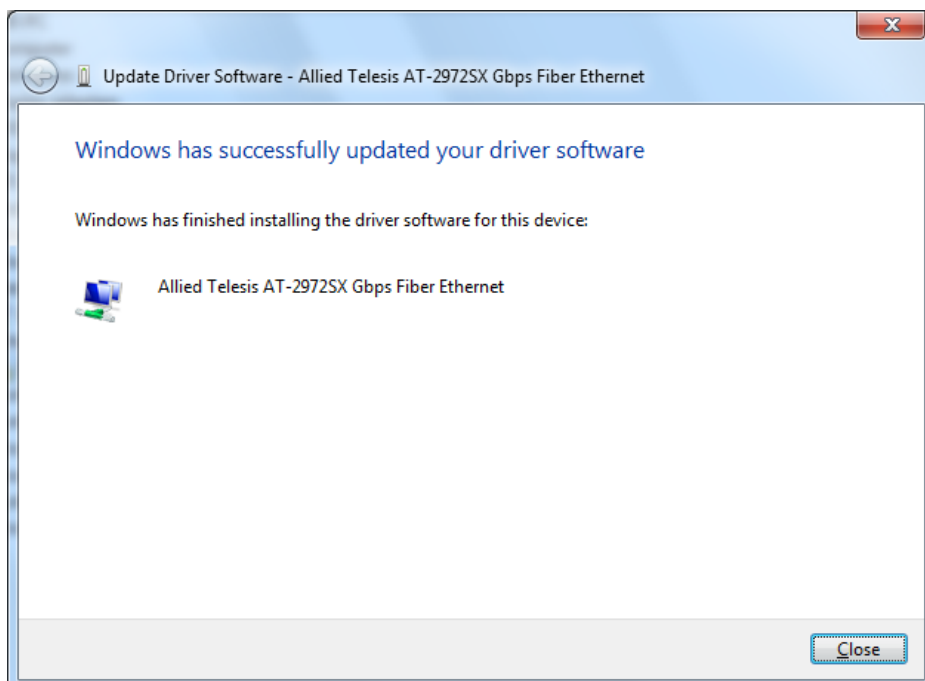

Figure 20. Update Driver Software - Confirmation Window
The Update Driver Software - Ethernet Controller: Browse for Driver Software Window is displayed. See Figure 20 on page 49.
7. Click **Next**. A confirmation message is displayed. See Figure 20.